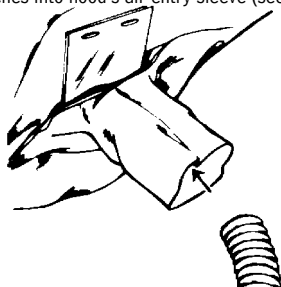

Figure 12
2. Insert the open end of the breathing tube approximately five inches into hood's air entry sleeve (see Figure 12).